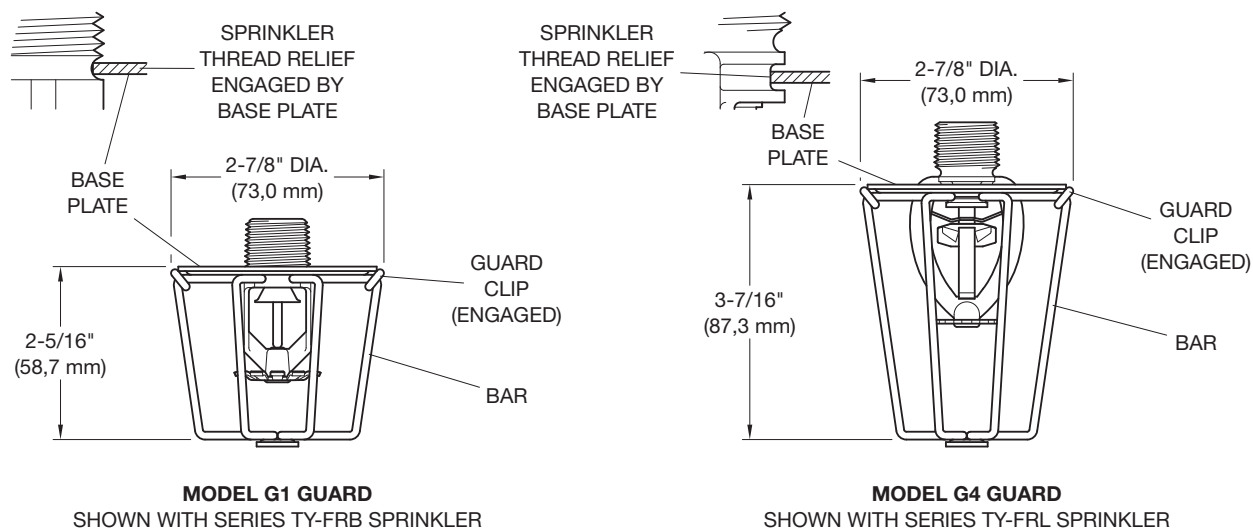

FIGURE 1
4. Spread the two halves of the Sprinkler Guard enough to pass over the sprinkler "thread relief" or "wrenching area", as applicable, portion of the sprinkler. Refer to Table A, as well as Figures 1 and 2.
5. With the Sprinkler Guard positioned on the "thread relief" or "wrenching area" portion of the sprinkler, as applicable, engage the Clips and then slide the Clips until they seat against the Base, completing the installation as shown in Figures 1 and 2.